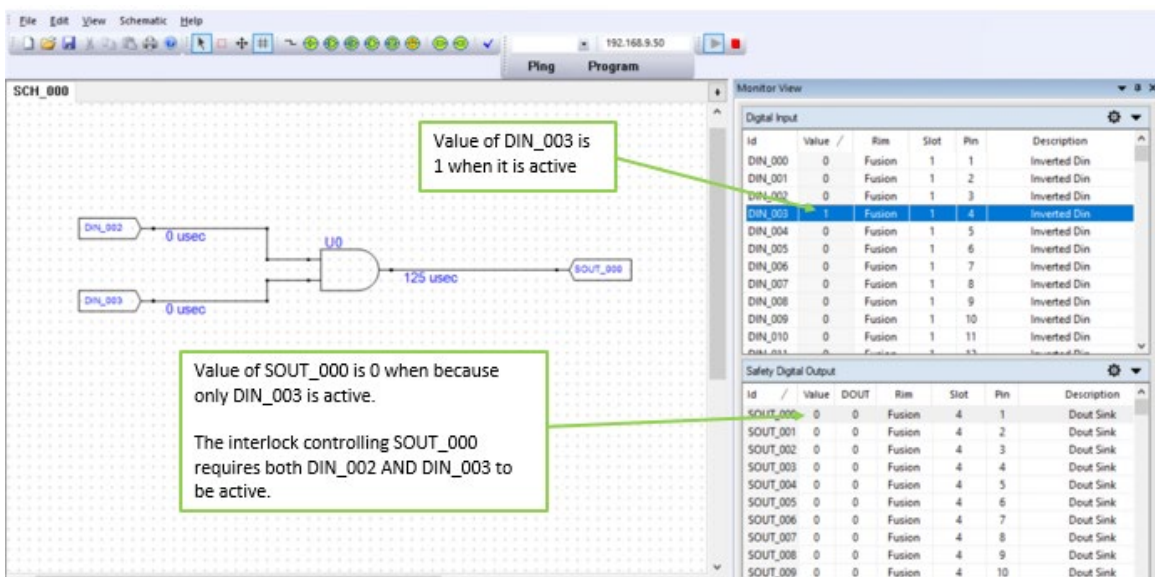

Figure 38 - Testing DIN_003
b) Test with only DIN_003 (See Figure 38 - Testing DIN_003.)